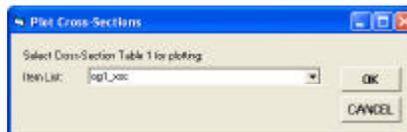

Figure 5
8. Select the name of the appropriate Cross-Section Data Table from the choice list, shown in Figure 5, click at the: